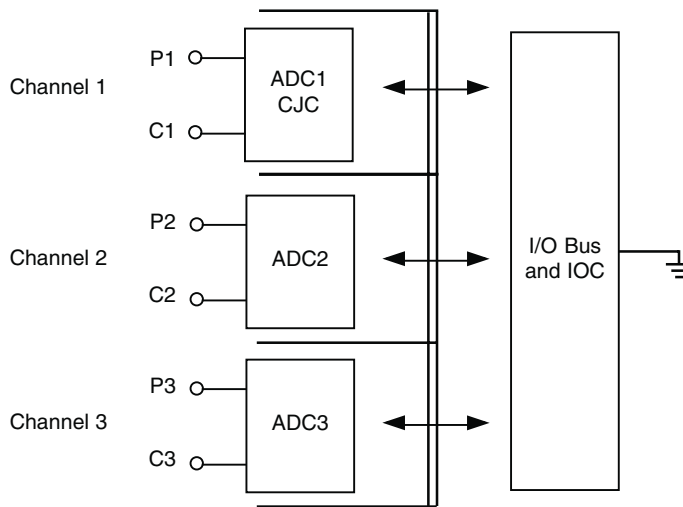

Figure AI3-2 Isolation Diagram
- For HART loops where the main burden resistor is that provided by the AI3, the resistor must be padded with an external series resistor, normally by adding 150Ω in series with the *Cn* connection. This can be achieved by cutting the track as shown in Figure AI3-2. The resistor can be wired using the spare terminals and wire-ended resistors. Such padding does not affect the specification, except in that the excess input voltage would reduce the headroom required to power external devices (as would all HART compliant loops).